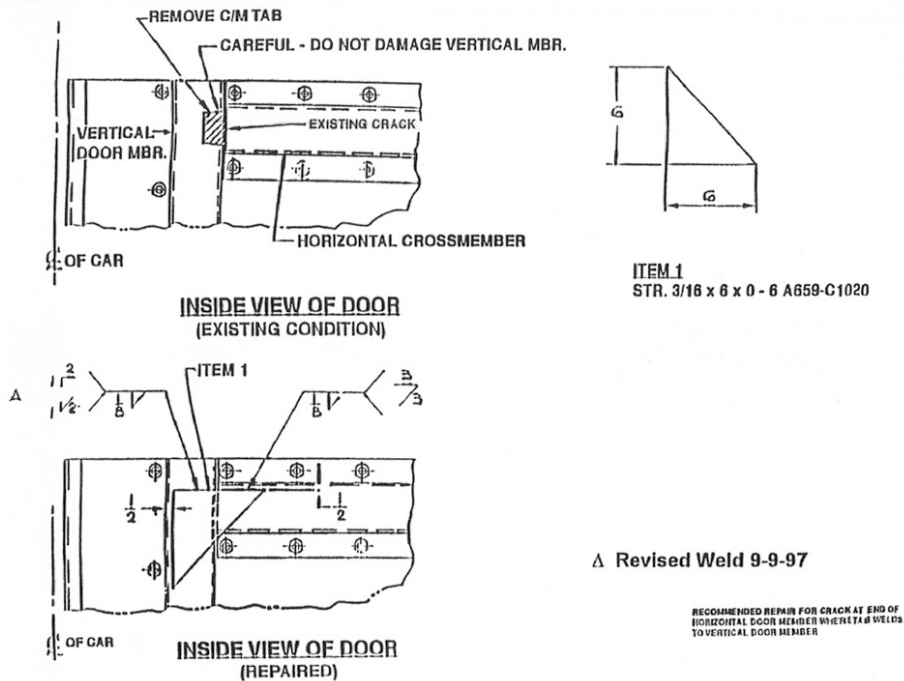

Figure 4.
(Refer to Figure 4.)
1. If a crack exists in the tab at the end of the horizontal cross member, carefully remove this tab. Use care so as not to damage or gouge the vertical door member. (Refer to Figure 4 “*Inside View of Door – Existing Condition*”.)
3. Clamp the reinforcement to the horizontal member and tack weld it into place. Next, clamp the reinforcement to the vertical member. Use heat if necessary to obtain the proper fit up. (See Figure 4, “*Inside View of Door – Repaired*”.)